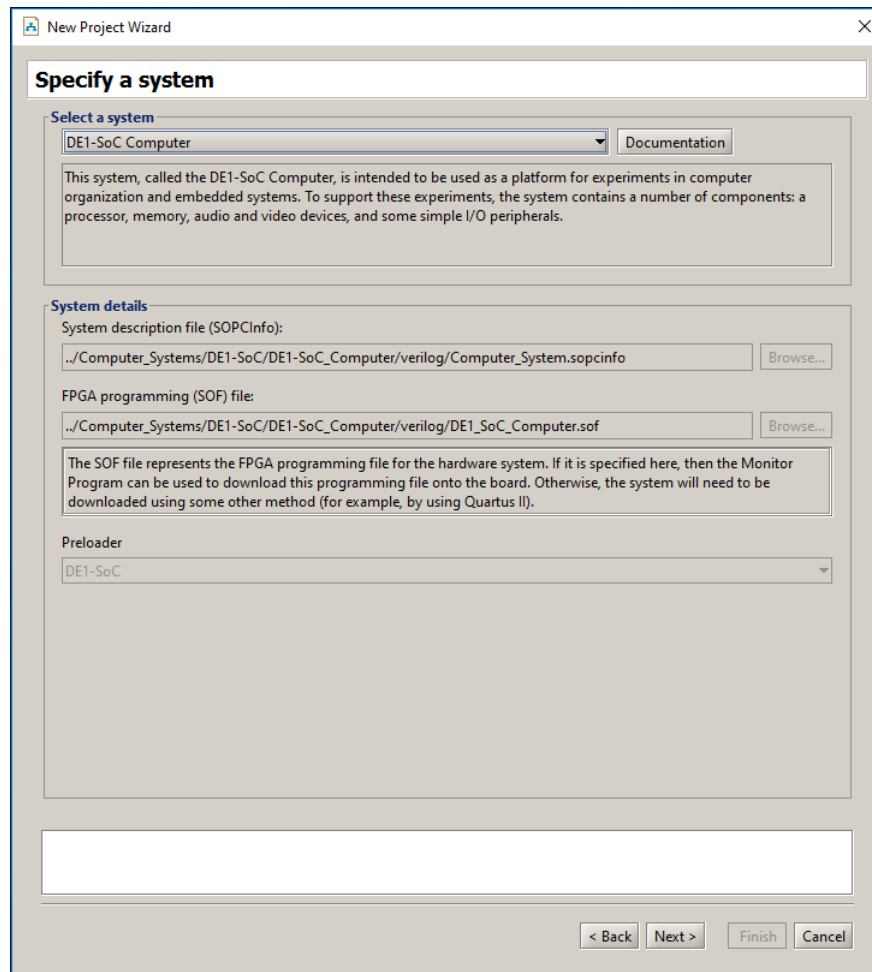

Figure 6. Specifying the desired hardware system.
2. Click **Next** to advance to the window shown in Figure 6, which is used to specify a particular system. A hardware system to be implemented on the FPGA board is usually generated by using Quartus's Platform Designer tool. Information about creating systems using Platform Designer can be found in the *Introduction to the Intel Platform Designer Tool* tutorial, which is available in the University Program section of Intel's website.
Lets go back to our DE1-SoC computer. In the top right corner of Figure 6 there is a Documentation button. Clicking on this button opens a user guide that provides all information needed for developing ARM programs for the DE1-SoC Computer, such as the memory map for addressing all of the I/O devices in the system. This file can also be accessed at a later time by using the command Settings > System Settings and then clicking on the Documentation button.